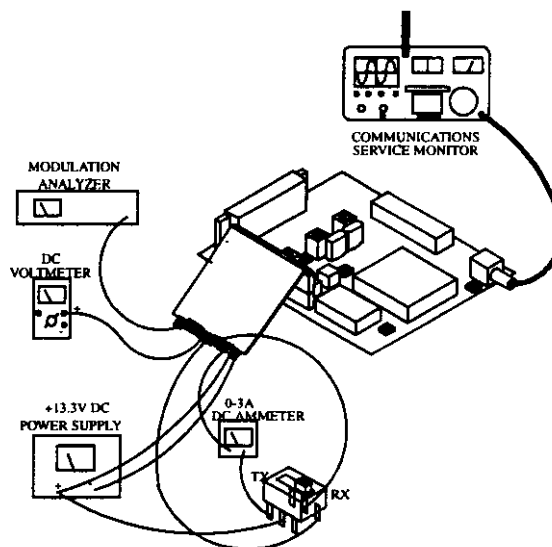

Figure 6-3 RECEIVER TEST SETUP
1. Connect the test setup shown in Figure 6-3.